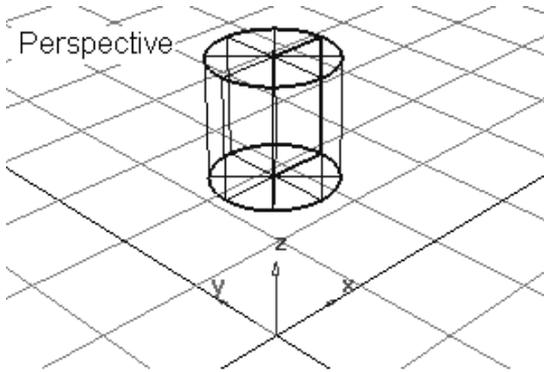

Figure 2-111 Base feature
2. Enter **0, 0, 200** in the promptline and press ENTER; the base feature is created, as shown in Figure 2-111.